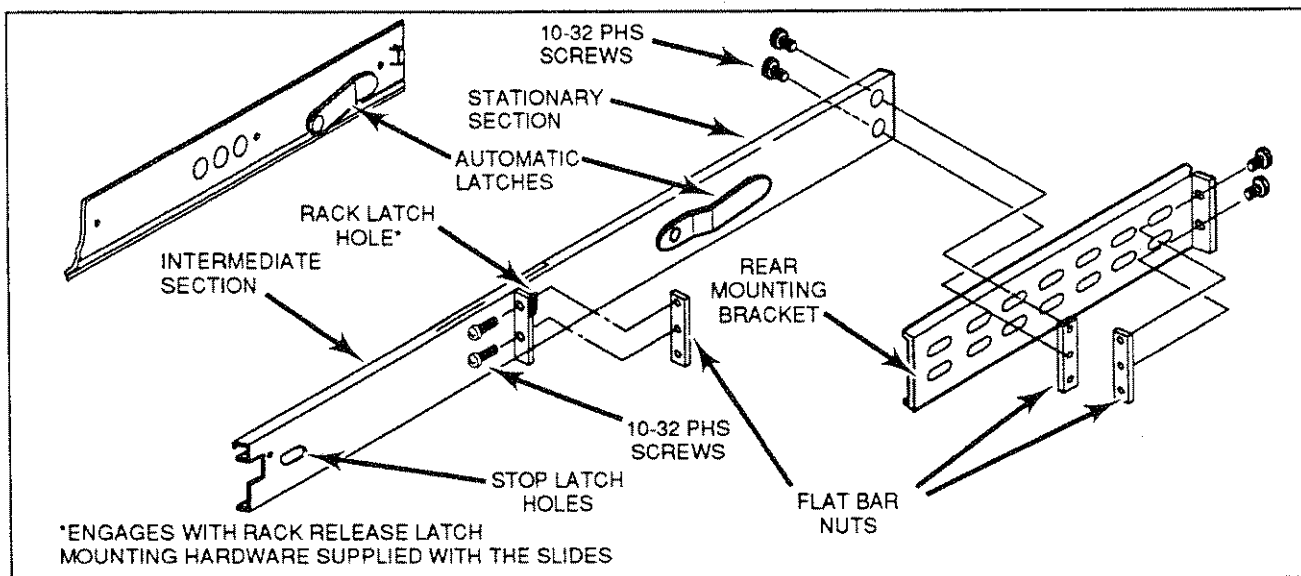
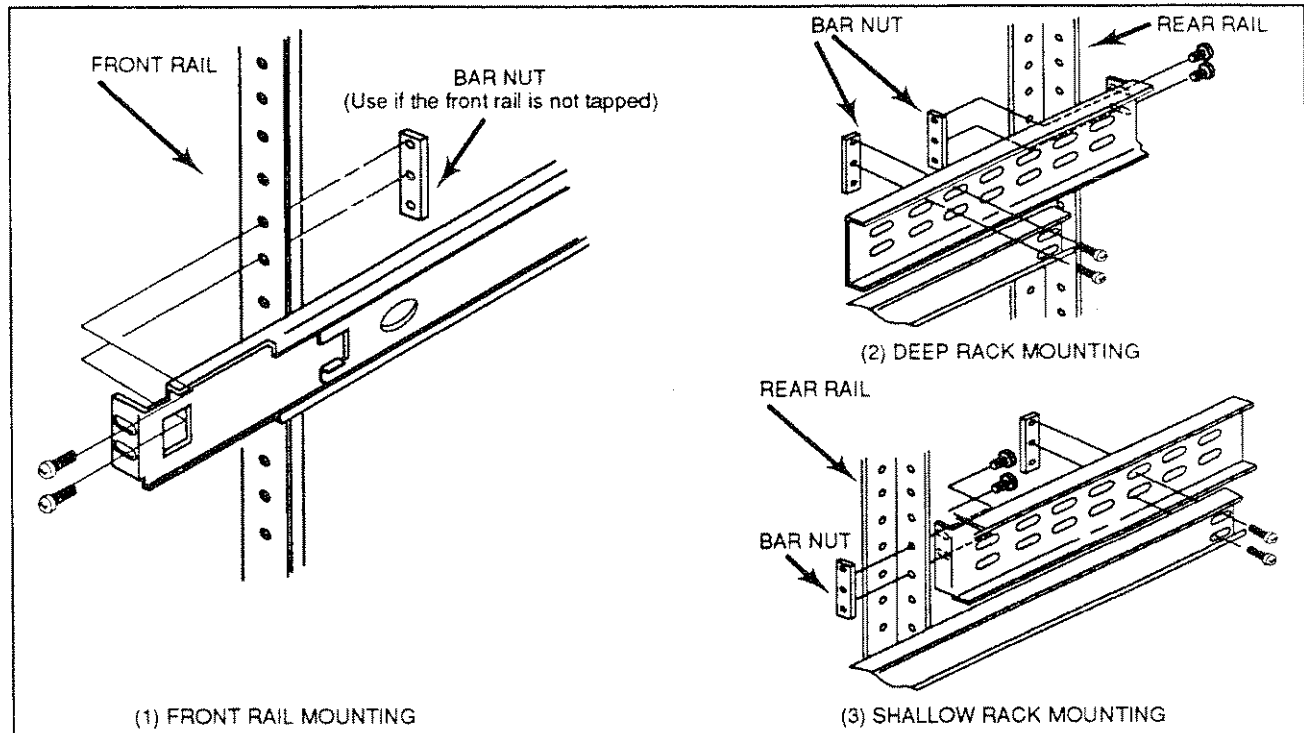

Figure 1-4. Rackmounting Hardware.
Figure 1-5. Mounting Stationary Rackmount Sections.
The slide-out tracks consist of two assemblies, one for each side of the instrument. Each assembly consists of three sections (see Figure 1-4). The stationary section of each track attaches to rack rails as shown in Figure 1-5. The chassis section mounts on the instrument and is installed at the factory. The intermediate section fits between the other two sections, allowing the instrument to be fully extended out of the rack.
3. Mount the stationary-track sections to the rear rails, using one of the methods depicted in Figure 1-5. Note that the rear mounting bracket can be installed to fit either deep or shallow cabinet racks.